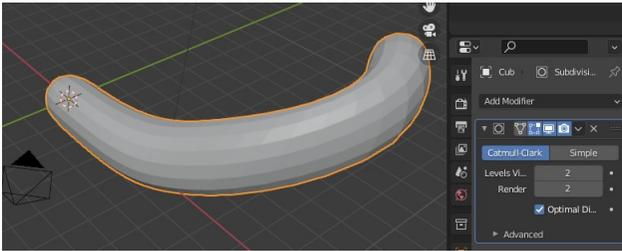

Figure 7-1 Subdivision of quads
3. Switch back to Object mode and add a subdivision modifier. The result should look like the “banana” in Figure 7-1
Sometimes it's tricky to see what's happening in Edit mode if there are modifiers, such as shrinkwrap or subdivision acting on the object. You can control which modes show or don't show the modifier by toggling the four buttons next to the name in the modifier controls, in Figure 7-1 and 7-2 you can see that three buttons are on but the left-most, On Cage, is off. Use the X-Ray view in order to be able to see hidden vertices and, occasionally, for modifiers such as shrinkwrap, it helps to switch On Cage on. For the subdivision modifier it is usually better to turn Realtime off, so you don't see the effect of the modifier in the 3D Viewport. Juggle these different settings as you work to keep track of what you are changing and what the final result will be.